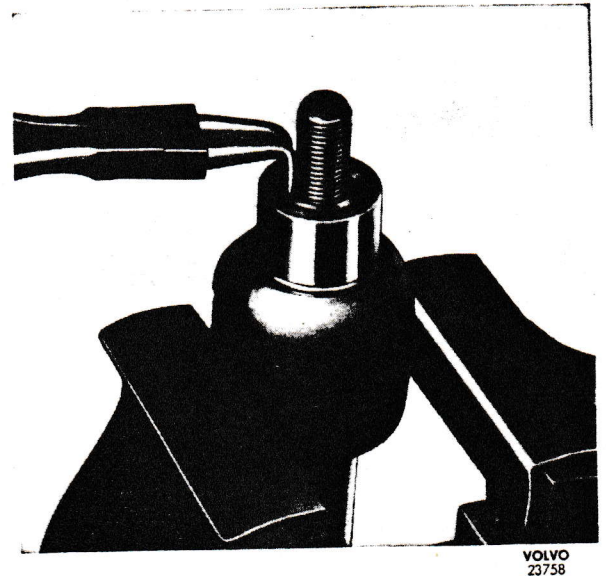

Fig. 29. Removing adjusting screw
4. Slacken the locknut (on early production, the cap and locking washer) and screw the adjusting screw out of the cover. The adjusting screw can be removed from the pitman arm shaft after the locking ring has been removed, see Fig. 29.